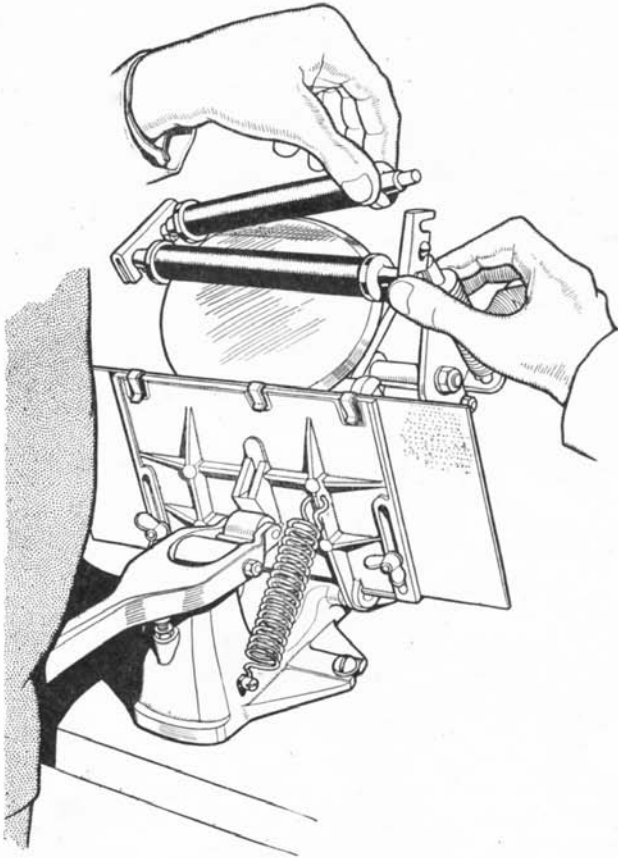

Fig. 41. Removing the rollers. Note that the impression handle is held down to its fullest extent against the body of the operator.
Fig. 41 illustrates this operation. Note that the rollers are resting on the top of the ink plate during this operation. This obviously can only be done by pressing down the hand-lever. But as in the removal of the rollers two hands are necessary, the operator must hold down the hand-lever by pressing it against the body. The artist has endeavoured to show this as clearly as
Little need be said about this operation. It is simply the reverse of the operation described in Section (1). Return the ink disc, bring the platen up to the type bed which will bring the roller arms into position at the top of the ink plate, and holding down the hand-lever against the body, replace the rollers in their bearings (Fig. 41).